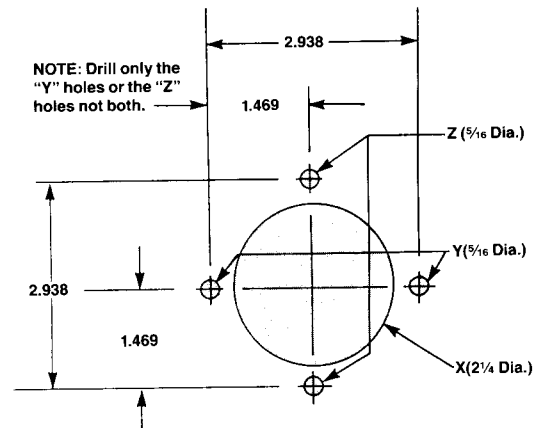

Fig. 2a
- Find handle center dimensions "D" and "E" by adding enclosure thickness and cover overhang ($C_1 + C_2$) to ("A" - $\frac{11}{16}$) and ("B" + $\frac{5}{16}$). Drill hole "X" ($\frac{2}{4}$ dia.) and drill either holes "Y" or "Z" ($\frac{5}{16}$ dia.) depending on handle orientation required. See Fig. 2a.